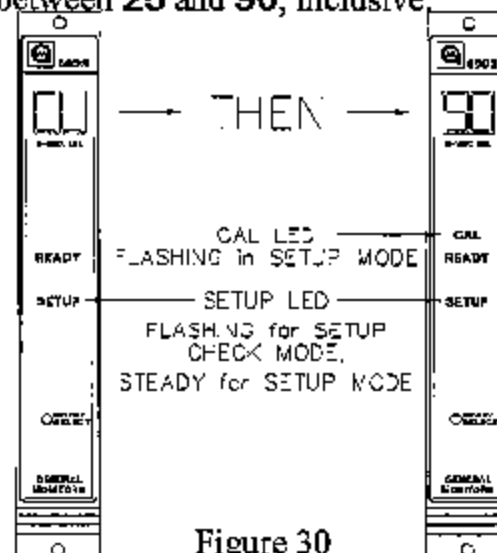

Figure 30
- After the A1 alarm options have been selected, the user will choose the calibration level (figure 30). The display will indicate **CL** for 5 seconds, then the current calibration level. The acceptable range of calibration level, in % LEL (lower explosive limit), is between 25 and 90, inclusive.